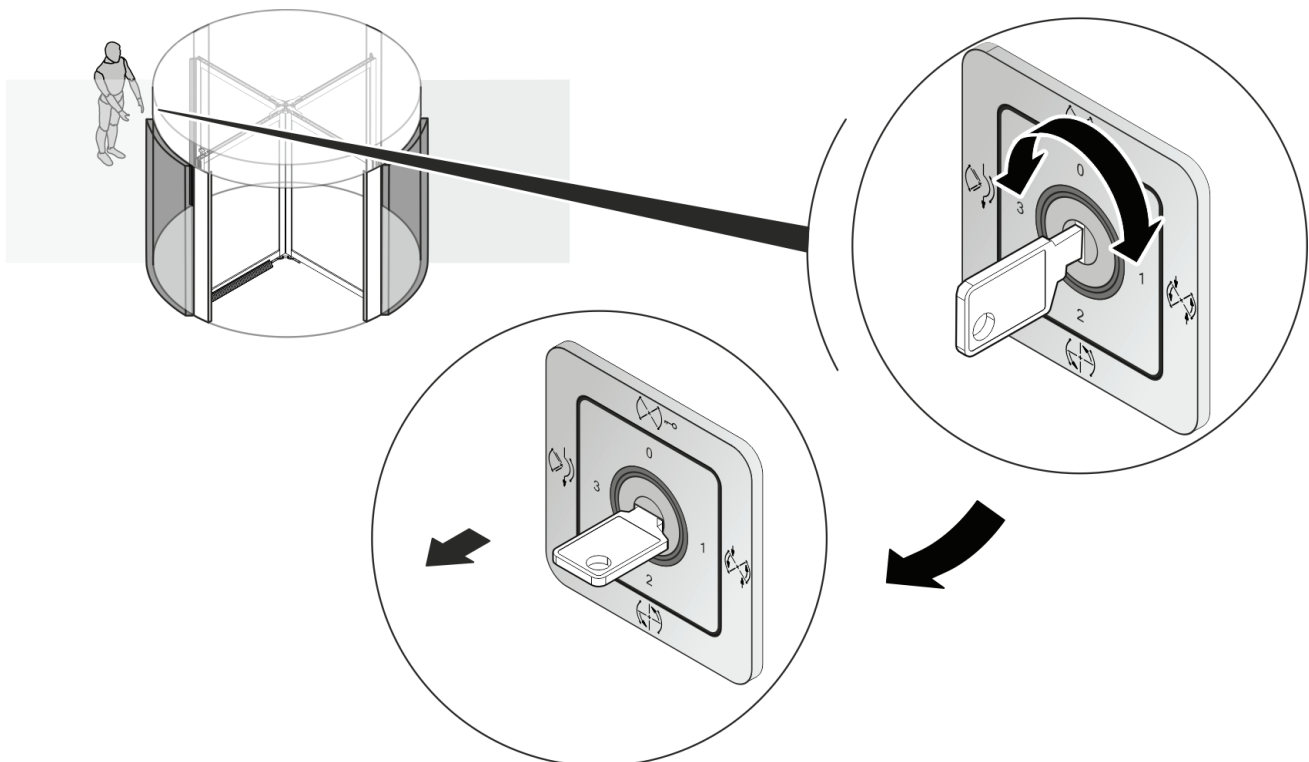

Fig. 10 Select program and pull the key
1. Select the desired program using key / code (Fig. 10) (Program switch, p. 5).